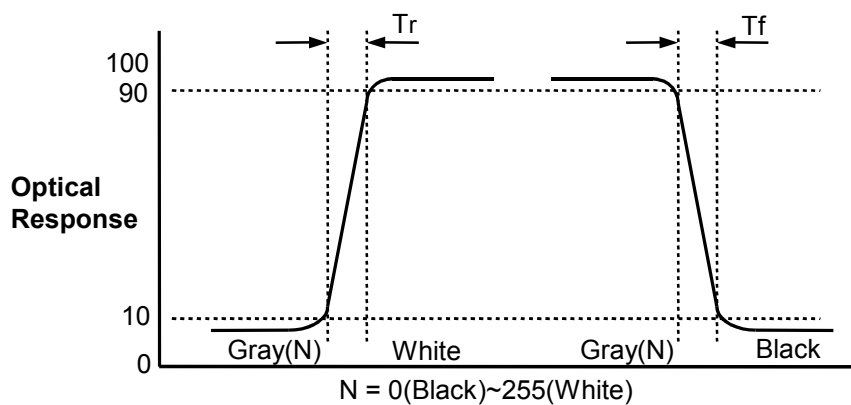

FIG. 4 Response Time
4. Response time is the time required for the display to transit from any gray to white (Rise Time, Tr_R) and from any gray to black (Decay time, Tr_D). For additional information see the FIG. 4.